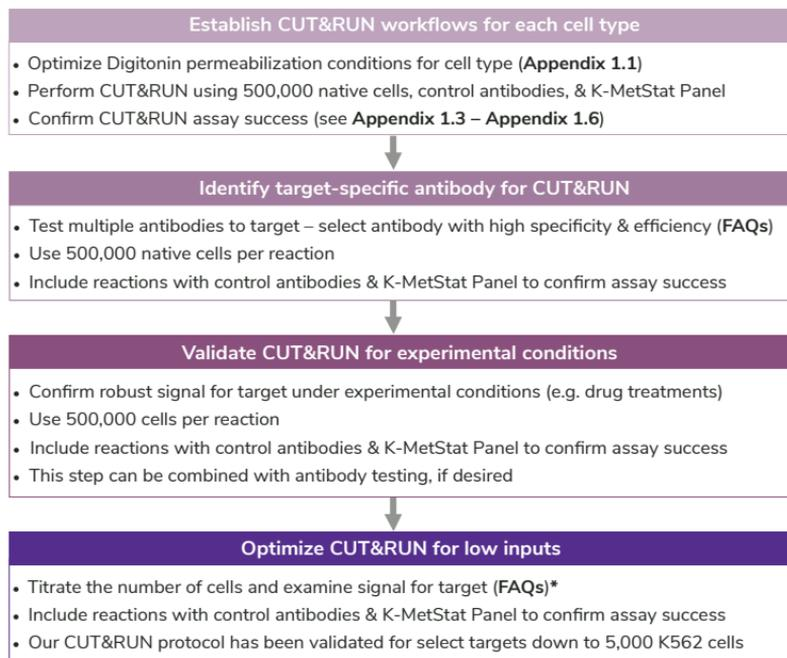

FIGURE 6
- Optimization methods are provided in Figure 6. For CUT&RUN troubleshooting, see **Appendices 1.3–1.6**.